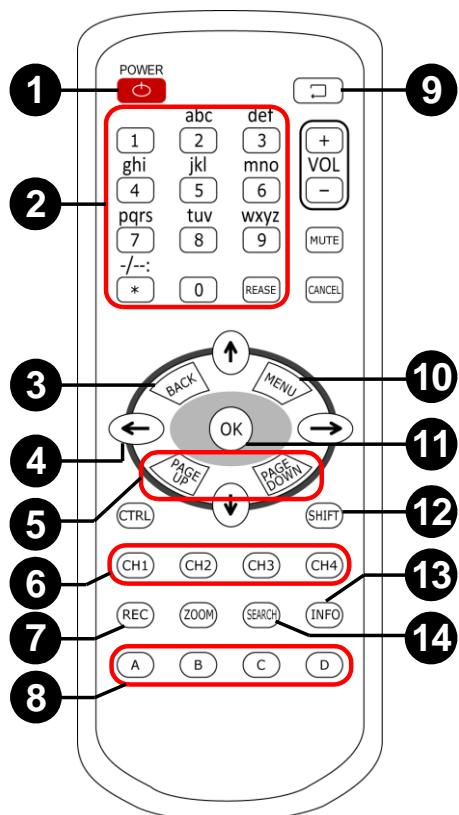

Figure 1-5
2. To select channels, press the up and down arrow keys (No.4, Figure 1-5) and press the right arrow key. The cursor position is displayed in yellow, and the selected channels will be in red. To cancel the selection, press the left arrow key.